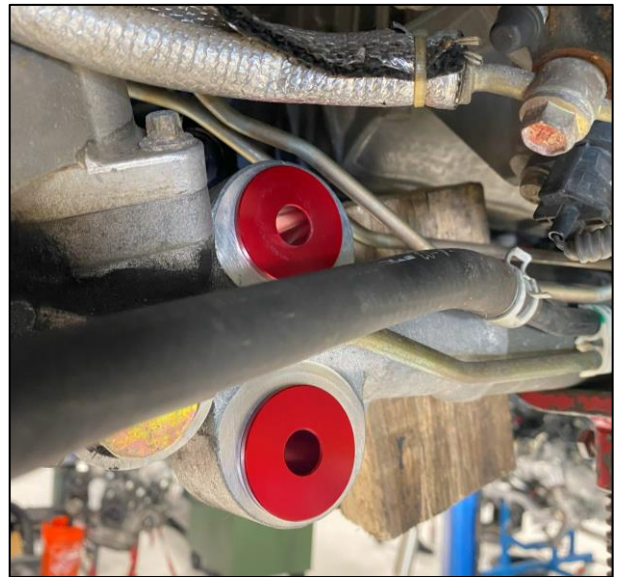

Figure 7
14. Remove your Rear Bushings from the freezer. Install them into the back of the Steering Rack (facing the back of the car). They can be pressed in by hand, or tapped in with a hammer if necessary. The Rear Bushings do not have the lip on the outside surface, as shown in *Figure 7*.